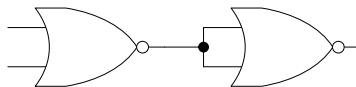

Figure 6.2 Implementing an OR Gate using two NOR gates
A NOR Gate performs the OR-NOT function. Removing the NOT gate at the output of the NOR gate results in an OR gate. The effect of the NOT gate at the output of the NOR gate can be cancelled by connecting a NOT gate at the output of the NOR Gate. The two NOT gates cancel each other out. A NOT Gate implemented using a NOR gate (2) is connected to the output of a NOR gate (1). Figure 6.2.